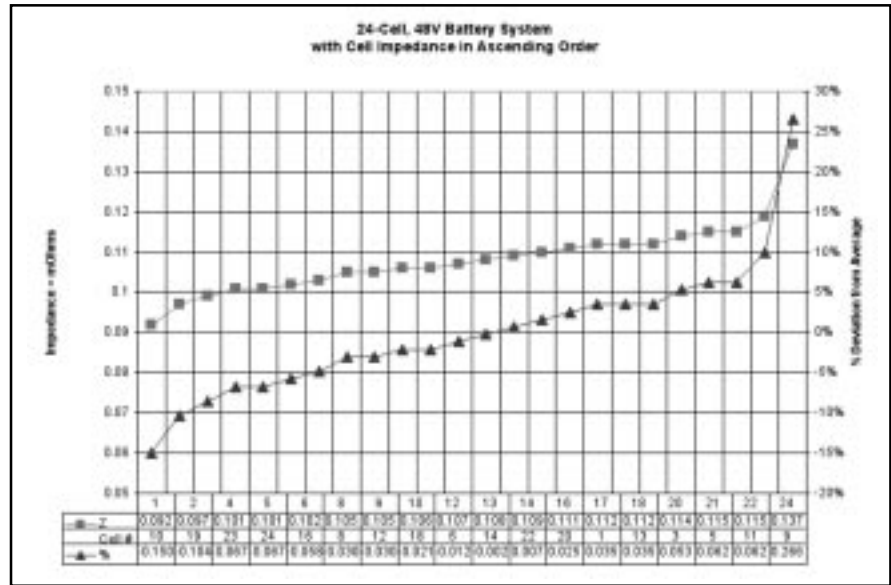

Figure 2. Comparison chart of individual impedance cell values.
**Short-term Interpretation:** By graphing the entire string's results using a spreadsheet like Excel®, in ascending AC resistance value, weak cells may be found simply by looking at the slope of the higher resistance cells. See Figure 2.